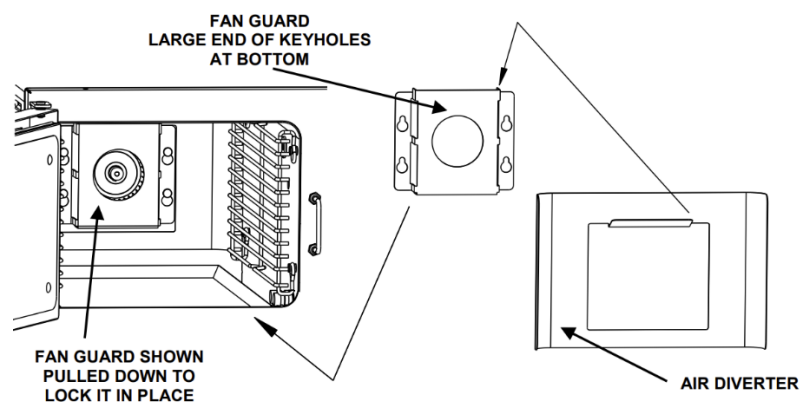

Figure 3-5 Fan Guard Installation
3. Pull it down so that the narrow ends of the slots are pulled tight over the mounts. See Figure 3-5.